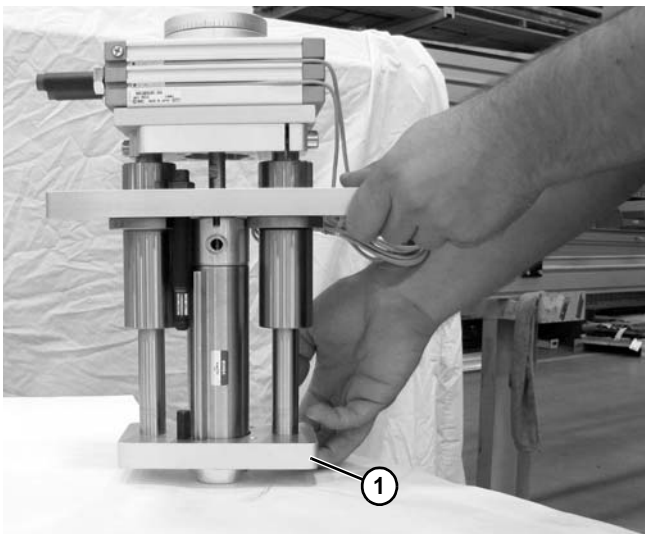

Figure 19
2. Raise or lower bottom plate (**Figure 19, item 1**).